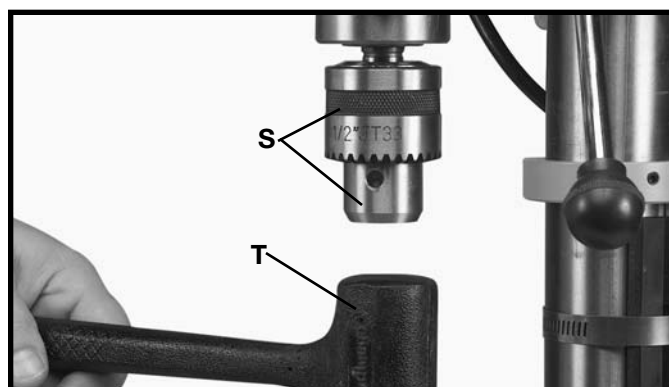

Fig. 18
15. Carefully drive chuck (S) Fig. 18, onto the spindle with a block of wood and hammer, or a rubber mallet (T) as shown. This will seat the chuck properly on the spindle. **IMPORTANT:** To avoid damage to the chuck, **NEVER** drive the chuck onto the spindle with a metal hammer.